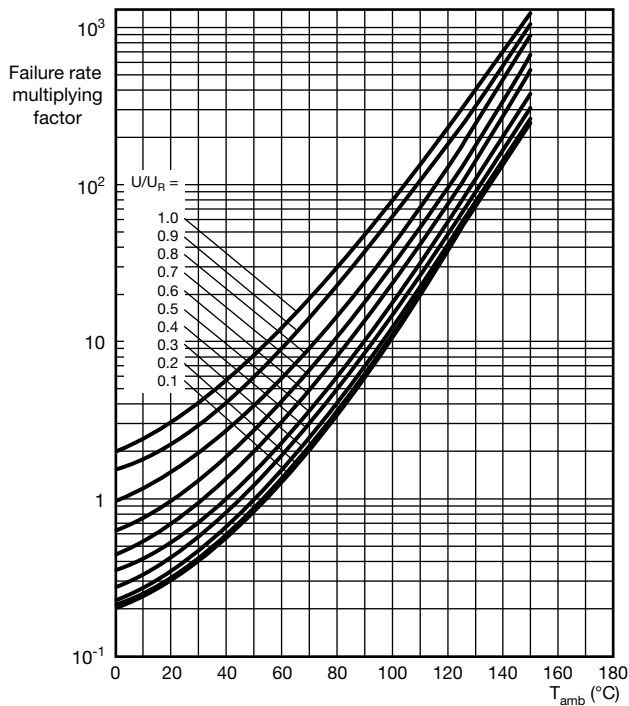

Fig. 17 - Conversion factors for failure rate (λ) as a function of ambient temperature (T_{amb}) and voltage ratio (U/U_R) for non-solid aluminum capacitors
- c. Wear-out period, showing an increasing failure rate due to gradual deterioration. For aluminum capacitors with non-solid electrolyte, the onset of this period can be calculated with the nomogram (see Fig. 17).
In order to calculate λ for other operating conditions, the value for the failure rate multiplying factor, $\text{mult}(T, U/U_R)$ in the formula above, must be taken from Fig. 17.